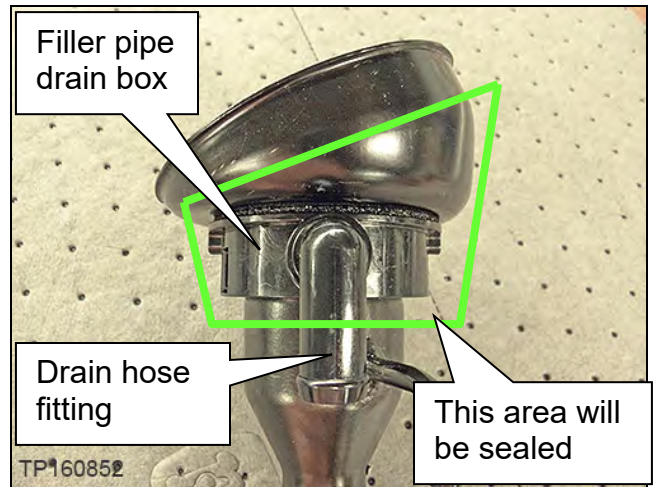

Figure 3
2. Wrap EPT foam (see **PARTS INFORMATION**) around the top of the new fuel filler pipe where indicated in Figure 3.
- Wrap the EPT foam so that its width extends above and below the fuel filler pipe drain box that is shown in Figure 3 on the previous page.